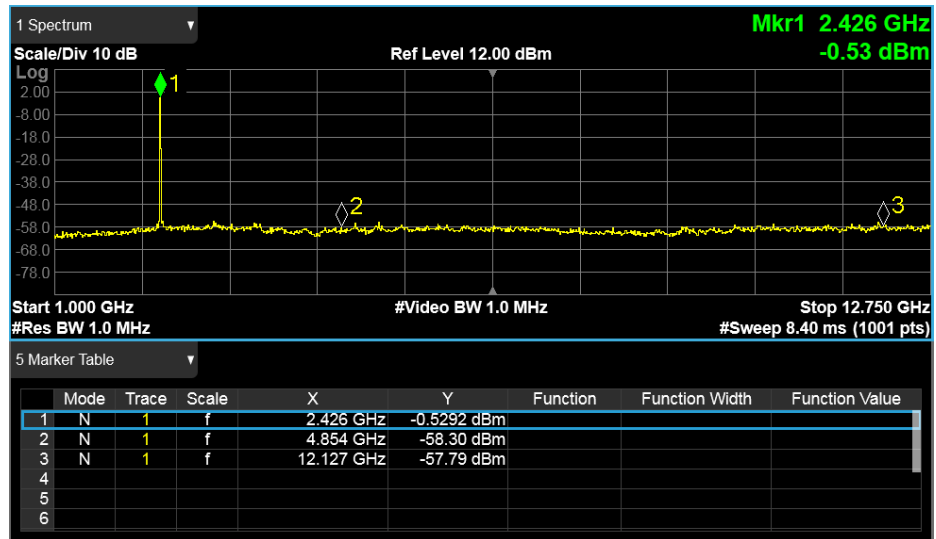

Fig 18. Tx out-of-band spurious @ 250 kbit/s
- The Tx out-of-band spurious with the GFSK data rate of 250 kbit/s and frequency band from 1 GHz to 12.75 GHz is shown in Fig 18.